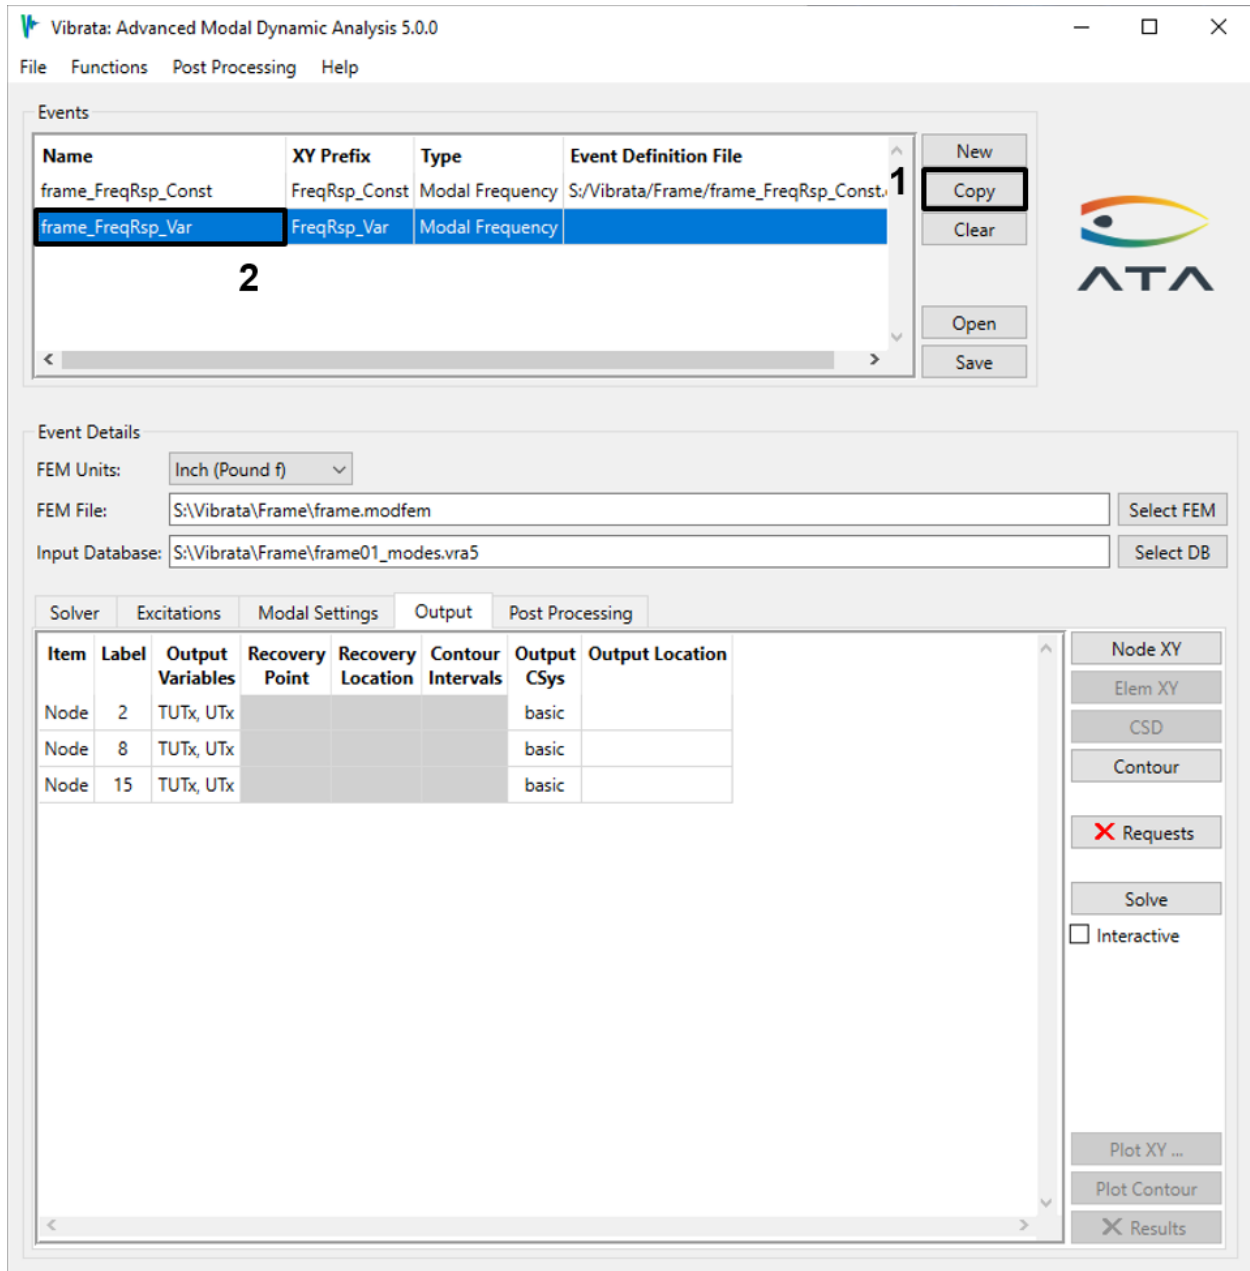

Figure 4-34. Use the **Copy** button to create a new event from an existing one.
- b. Rename the new event to "frame_FreqRsp_Var" and set the XY Prefix accordingly. Note that its output requests are again in black text; these have not yet been solved (Figure 4-34).